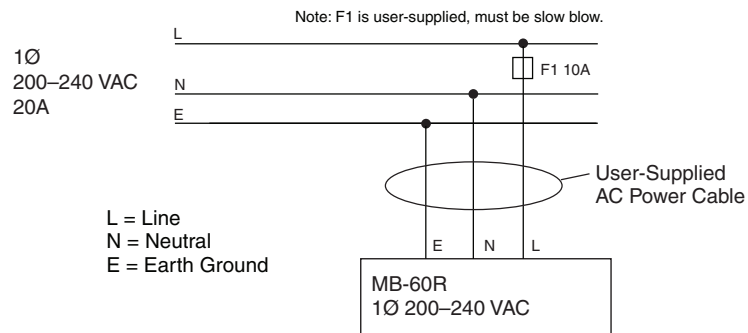

Figure 4-3. Typical AC Power Installation with Single-Phase Supply
1. Connect the unterminated end of the AC power cable to your facility AC power source. See Figure 4-3. and Figure 4-4.